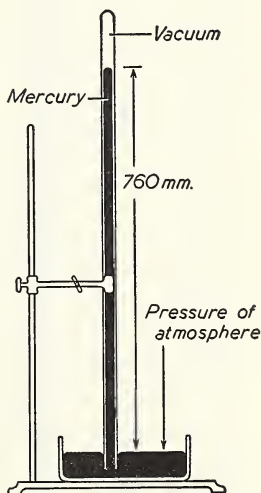

Fig. 49. A simple mercury barometer. Any change in the height of the column of mercury indicates a change in the pressure exerted by the atmosphere.
1. Select a thick-walled glass tube about three feet in length and closed at one end. Carefully fill this tube with mercury. (During the filling process, it is advisable to *tap* the tube gently at intervals to prevent the retention of trapped air bubbles.) When it is filled, hold a finger firmly over the open end of the tube, and invert it. Keep the finger in position until the end of the tube is submerged beneath the surface of mercury in a dish (cistern). Support the tube in a vertical position, and then remove the finger (Fig. 49).